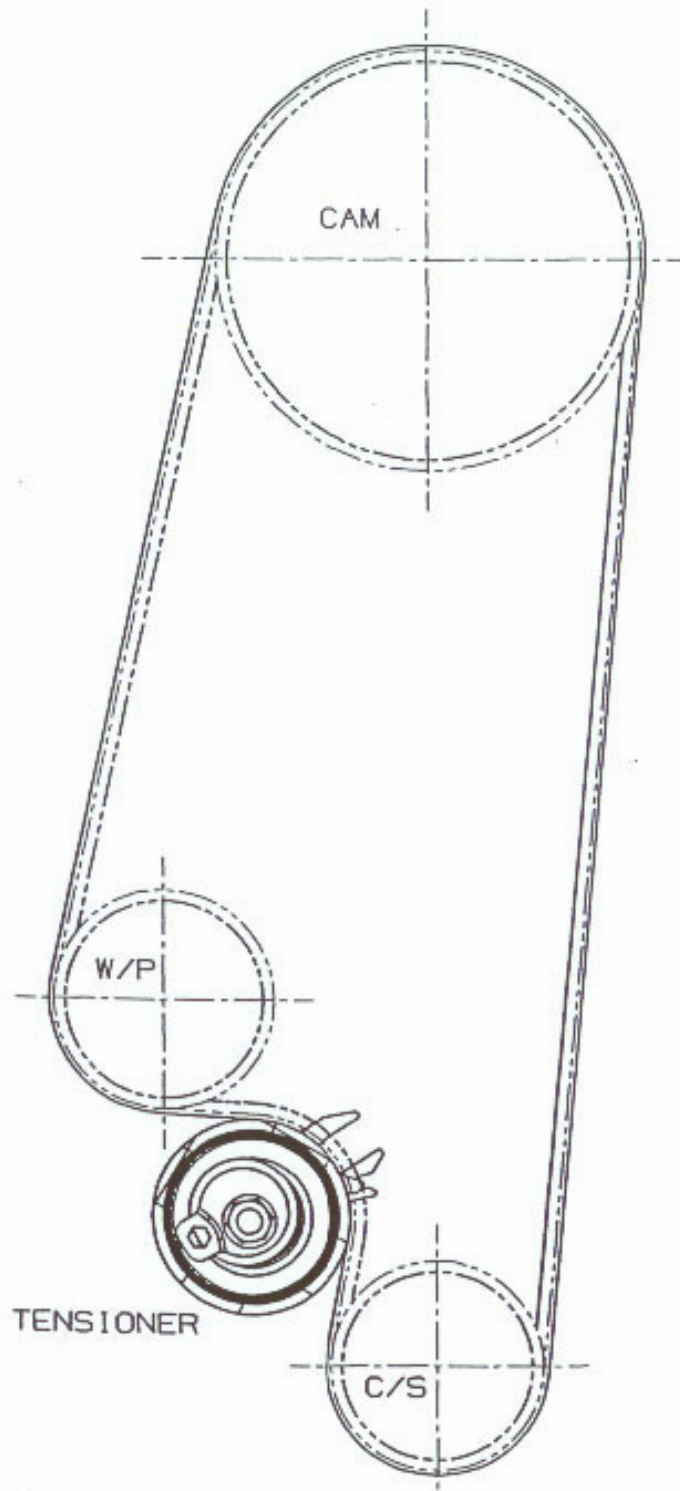

Figure 2: Belt layout for 979302 (VW 1.4/1.6L SOHC)
5. Install the timing belt being careful to engage the appropriate teeth of all the corresponding sprockets as per drive layout (**See Figure 2**).